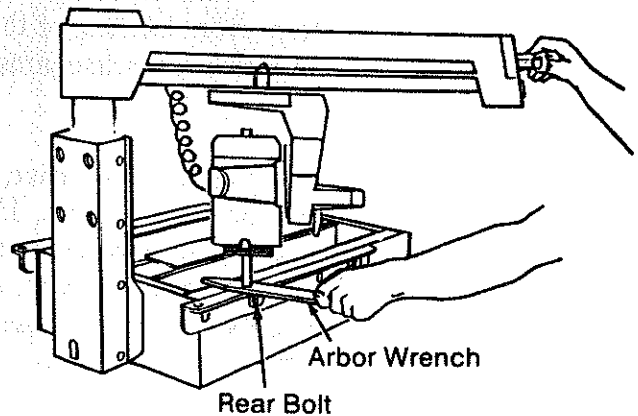

Fig. 38
6. Turn the *motor* until the *arbor shaft* is pointing straight down toward the *saw*. (Figure 38)
9. Unlock the *rip lock* and move the *motor* until the *arbor shaft* is over the rear bolt on the left *table support*. (Figure 38)
11. Place the handle end of the *arbor wrench* over this point and lower the *arm* until the *arbor shaft* is just touching the *wrench*. The *wrench* should slide back and forth with slight contact. (Figure 38)